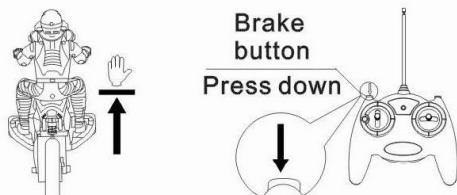

Fig8
3. When the body in driving, press the "brake button", the body will stop running. (Figure 8)